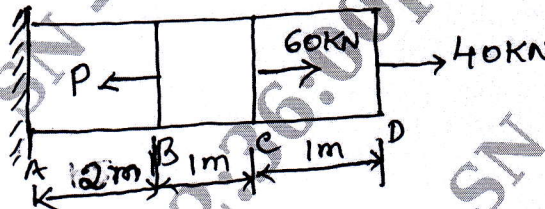

Fig.Q2(a)
- Determine the magnitude of the load P necessary to produce zero net change in the length of the straight bar shown in Fig.Q2(a), $A = 400 \text{ mm}^2$.